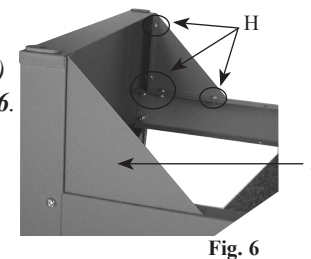

Fig. 6
Place assembled frame top side down on level surface. Align holes and attach (4) Corner Braces (J) to End Panels (A) and Bottom Rails (C) as shown in Fig. 6. Sixteen Fasteners (H) used.